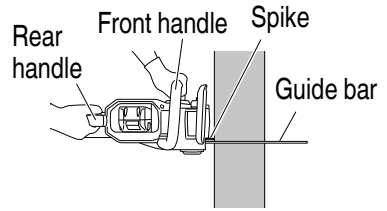

Fig. 23
(4) When cutting wood horizontally, turn the unit body to the right so that the guide bar is below and hold the upper side of the front handle with your left hand. Hold the guide bar horizontally and place the spike that is on the front of the unit body on the lumbar. Using the spike as a fulcrum, cut into the wood by turning the rear handle to the right. (Fig. 23)